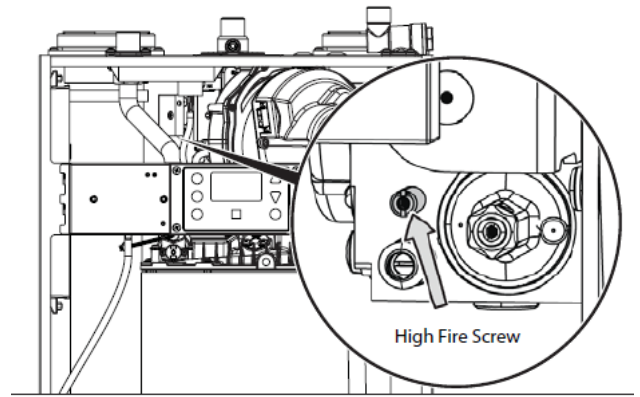

Figure 31 – High Fire Adjustment Screw Location
- Use a small flat head screwdriver to adjust the gas valve high fire screw to achieve the desired CO₂ values. See Figure 31.